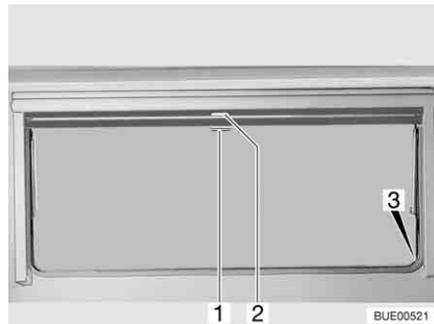

Fig. 71 Hinged window
- Pull blind at the handle (Fig. 71,2) downwards. If the blind is to be completely closed, it is suspended into the locking devices (Fig. 71,3) situated on both sides of the window frame.
- If the blind is completely closed: Press handle (Fig. 71,2) downwards and, at the same time, tilt it slightly inward. The blind can be taken out of the locking devices situated on both sides of the window frame.
- If the blind is in an intermediate position: Pull the handle (Fig. 71,2) slightly downwards until the locking device releases.
- Pull insect screen at the handle (Fig. 71,1) down and hang it into the locking devices (Fig. 71,3) situated on both sides of the window frame.
- Press handle (Fig. 71,1) downwards and, at the same time, tilt it slightly inward. The insect screen can be taken out of the locking devices situated on both sides of the window frame.